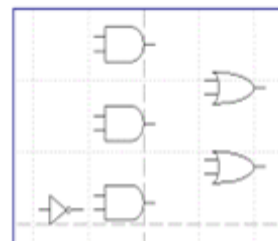

Figure 10-5
- Move the mouse pointer to the *Design Window* and place one NOT gate to the left of the bottom AND gate. See Figure 10-5